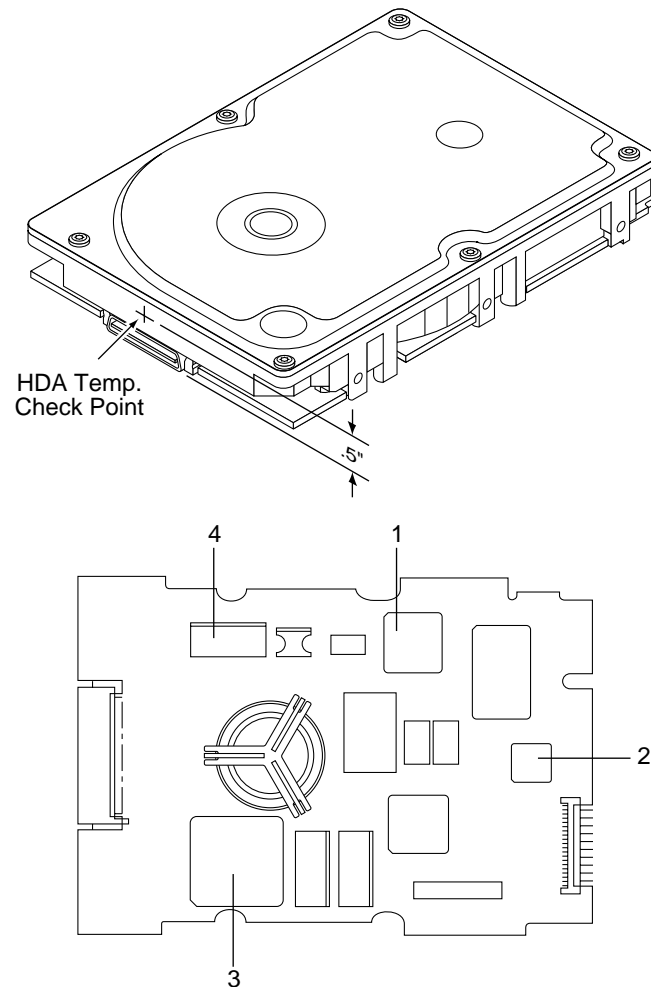

Figure 9. Locations of PCBA components listed in Table 2
- [2] Measure HDA temp at point labeled "HDA" on Figure 9.